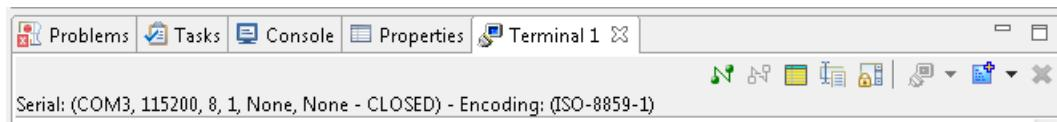

*Figure 2-16: ZC702 Board Power Switch*
**IMPORTANT:** Ensure that jumpers J27 and J28 are placed on the side farther from the SD card slot and change the SW16 switch setting as shown in *Figure 2-16*.